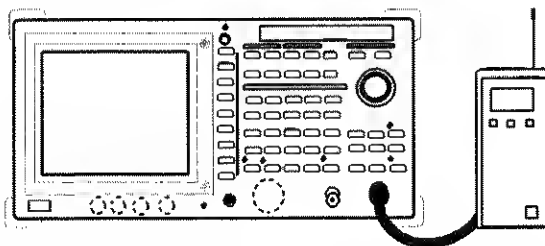

Figure 2-102 Setup Measuring Adjacent Channel Leakage Power
1. Connect the unit under test as shown in Figure 2-102.